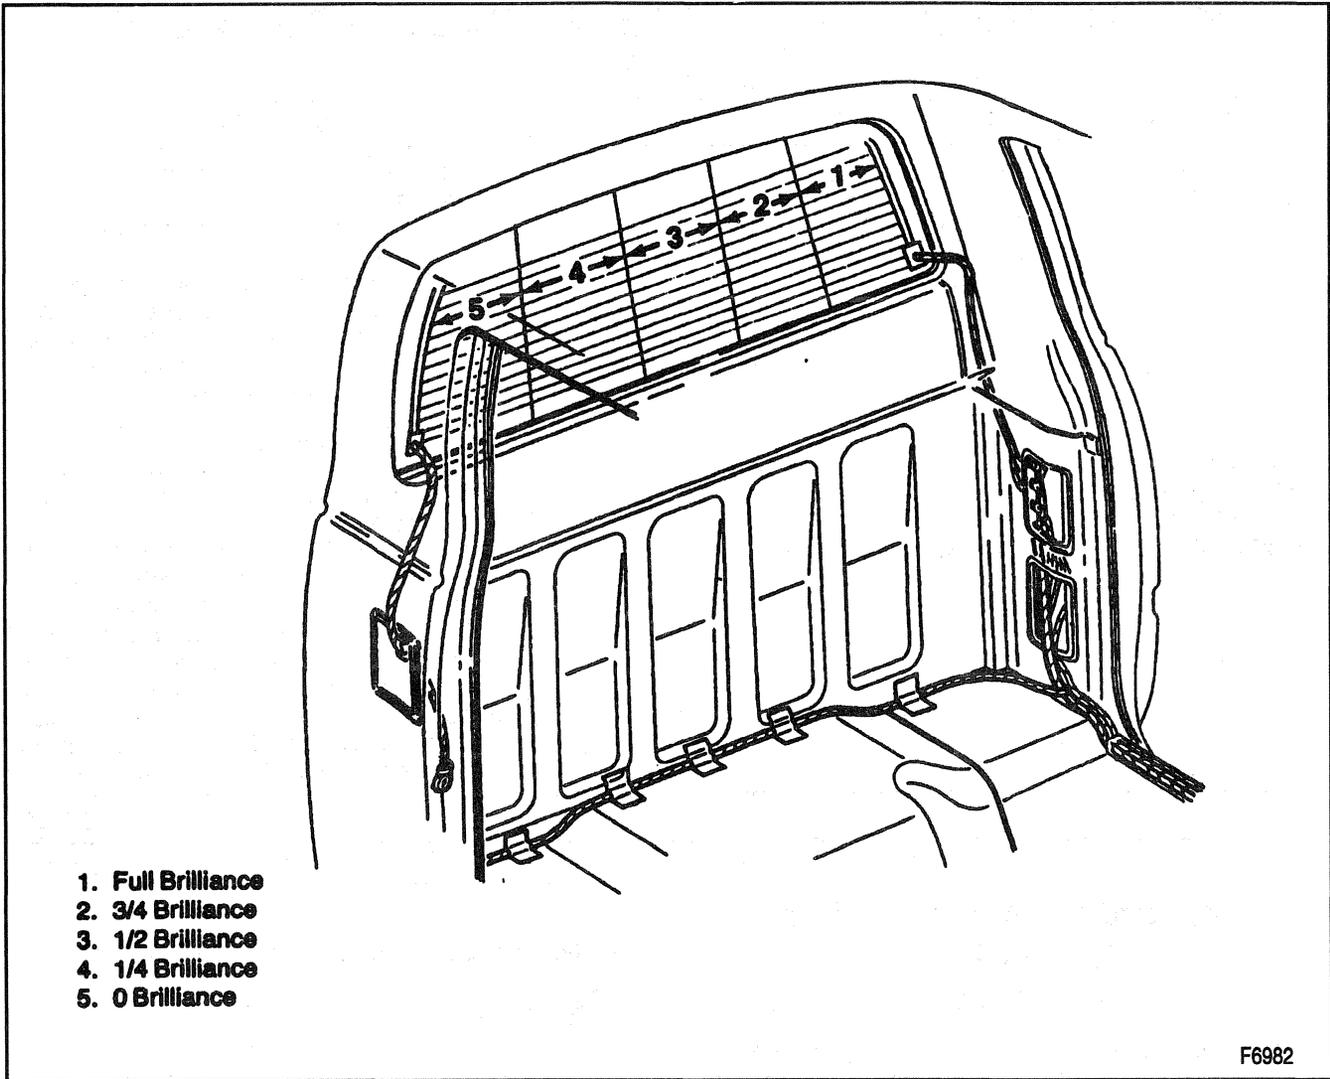

Figure 28—Test Lamp Brilliance Zones - Normal Operating Rear Window
- Move the lamp from the feed wire side to the grounded side of each grid. The lamp should be fully bright then gradually dim as it is moved across the grid. Be sure to check each grid line in at least two places to avoid the possibility of bridging a gap (Figure 28).